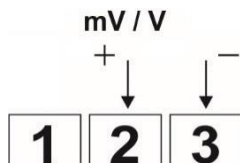

Figure 11 – 50 mV, 5 V and 10 V connections
- 50 mV, 5 V and 10 V:** Figure 11 shows the connection mode for 0-50 mV, 5 V and 10 V.